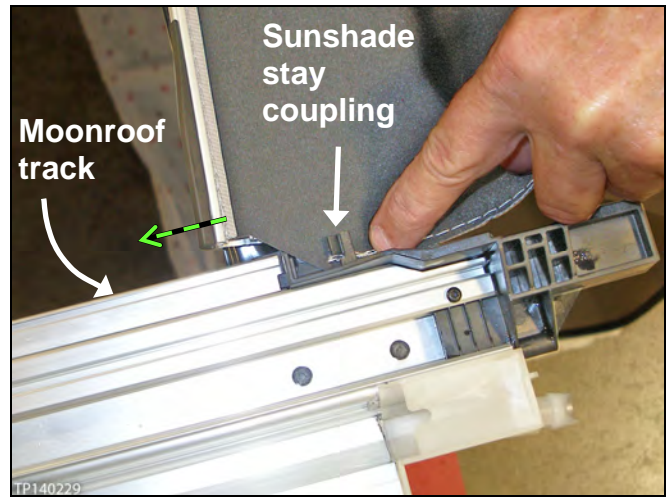

Figure 11
- a. Feed the fabric edges and black hems **UNDER** the sunshade stay couplings (see Figure 11 and 15).